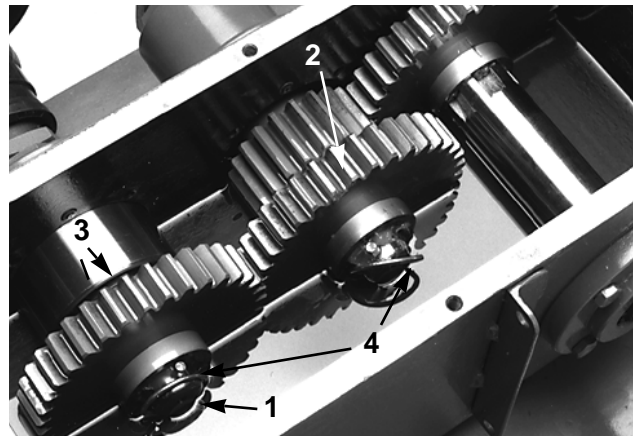
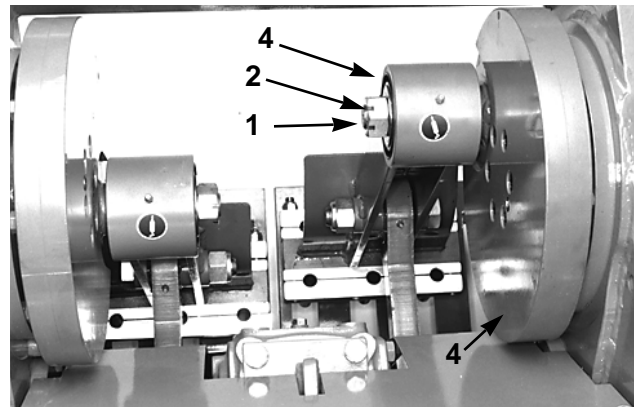

Figure 21
Figure 24
2. The oil level should be to the center of the gear shafts (Fig. 21). If the level is low, add SAE EP 90W gear oil and install the cover.
2. Remove the roll pin securing the castle nut to the top crankshaft (Fig. 21). Check the castle nut for tightness with your fingers. If the nut is very loose, turn it clockwise until it is flush against the outer spacer and you feel resistance (Fig. 24).